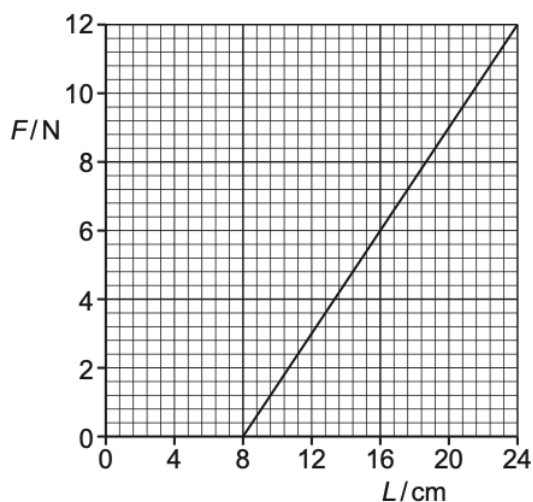

Fig. 4.1
- 11 A spring is suspended from a fixed point at one end. The spring is extended by a vertical force applied to the other end. The variation of the applied force  $F$  with the length  $L$  of the spring is shown in Fig. 4.1.